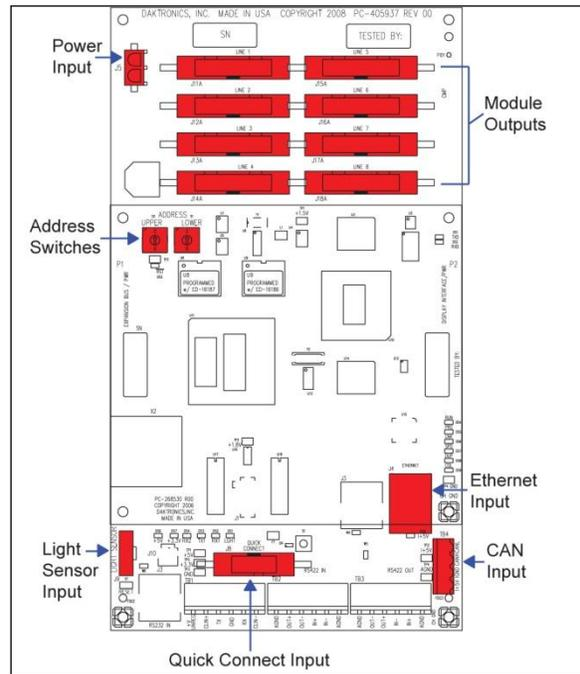
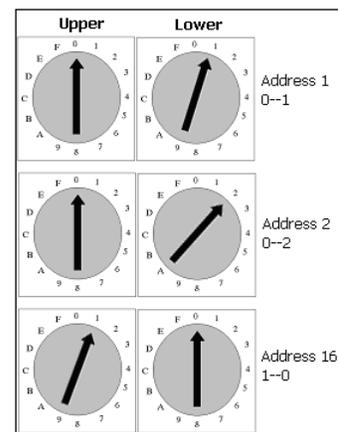

Figure 33: Galaxy Controller
Figure 34: Rotary Address Switches
7. Take note of the rotary address on the controller to ensure the address on the replacement board is the same. Refer to the **Controller Address Setting** section for additional information. Refer to **Figure 33** and **Figure 34**.